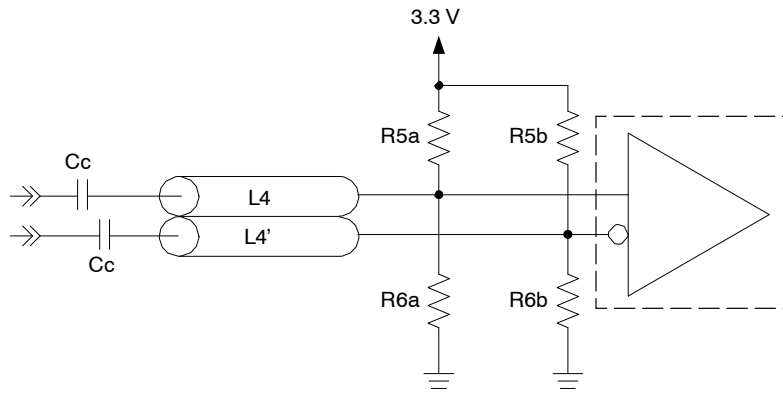

Figure 9. Cable-Connected AC Coupled Application
**Table 33. CABLE CONNECTED AC COUPLED APPLICATION (Figure 9)**